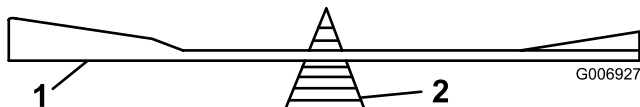

Figure 41
2. Check the balance of each blade by putting it on a blade balancer (Figure 41). If the blade stays in a horizontal position, the blade is balanced and can be used. If the blade is not balanced, file some metal off the back side of the blade. Repeat this step until each blade is balanced.